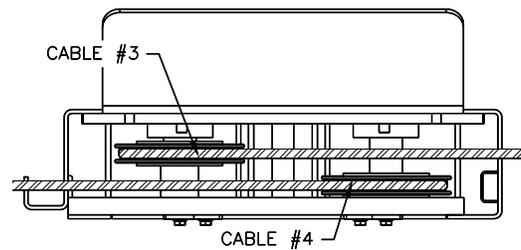

Fig 11 – Power Runway (Front View)
16) At the front of the power runway continue routing cable #3 around the sheave and out the front drivers side cross beam. Cable #4 should be routed around the sheave & out to the passenger side front cross beam, **Fig 11**. **Ensure that cables 3 and 4 are not crossed inside the front cross beam.**